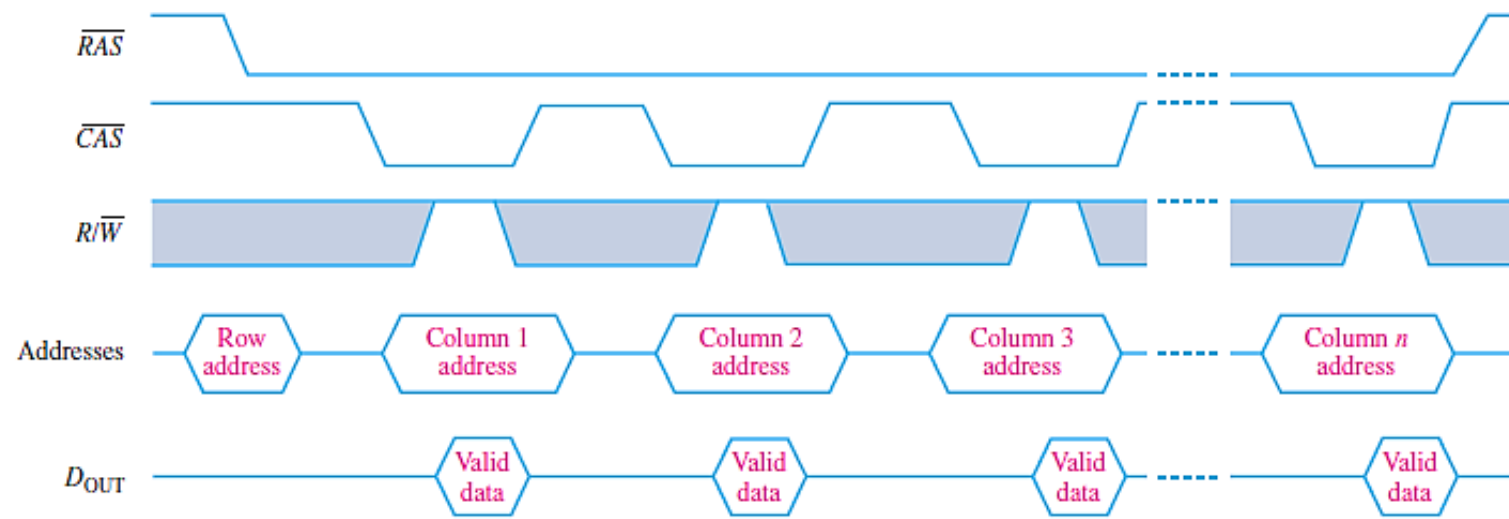

FIGURE 15 Fast page mode timing for a read operation.
- ❑ Fast page mode operation for read is illustrated by the timing diagram in Figure 15. When $\overline{CAS}$ goes to its non asserted state (HIGH), it disables the data outputs. Therefore, the transition of $\overline{CAS}$ to HIGH must occur only after valid data are latched by the external system.